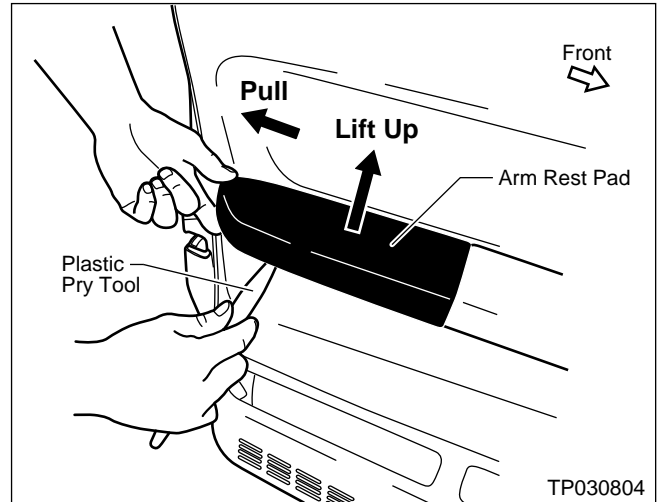

Figure 25
3. Use a Plastic Pry Tool to carefully lift UP the Arm Rest Pad to release the securing clips. Then, remove the Pad by lifting UP and PULLING rearward (see Figure 25).